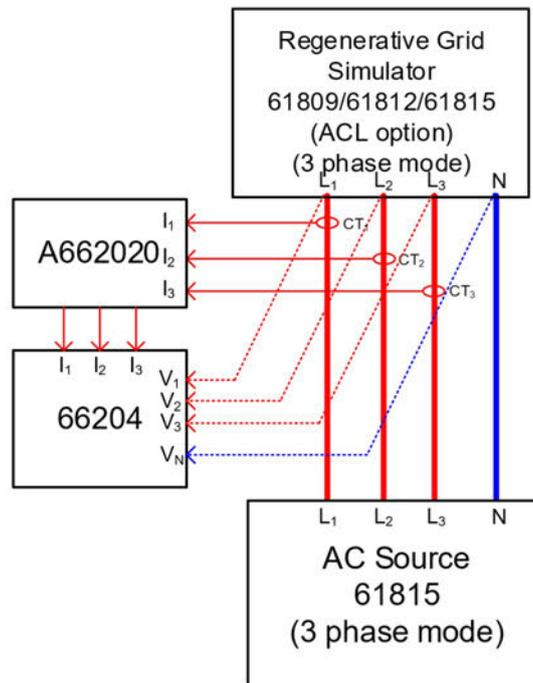

Figure 7-5
- A. Connect the Regenerative AC Load, AC Source, Power Analyzer, and Current Transducer as shown in Figure 7-5. Use the Power Analyzer to measure the AC Iac current.
- A. Connect the Regenerative AC Load, AC Source, Power Analyzer, and Current Transducer as shown in Figure 7-5. Use the Power Analyzer to measure the apparent power S.